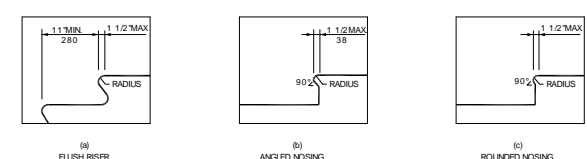

FIG. 18 USEABLE TREAD WIDTH AND EXAMPLES OF ACCEPTABLE NOSINGS. N.T.S.
- 4.9.2 TREADS & RISERS. ON ANY GIVEN FLIGHT OF STAIRS, ALL STEPS SHALL HAVE UNIFORM RISER HEIGHTS AND UNIFORM TREAD WIDTHS. STAIR TREADS SHALL BE LESS THAN 11" (280mm) WIDE, MEASURED FROM RISER TO RISER (SEE FIG. 18)(b)). OPEN RISERS ARE NOT PERMITTED ON ACCESSIBLE ROUTES.
- 4.9.3 NOSINGS. THE UNDERSIDES OF NOSINGS SHALL NOT BE ABRUPT. THE RADIUS OF CURVATURE AT THE LEADING EDGE OF TREADS SHALL BE NO GREATER THAN 1/2" (12.7mm). THE LEADING EDGE OF TREADS SHALL BE LEVEL TO THE SURFACE OF THE TREAD AND SHALL NOT BE LESS THAN 60 DEGREES FROM THE HORIZONTAL. NOSINGS SHALL PROJECT NO MORE THAN 1-1/2" (38mm) (SEE FIG. 18).